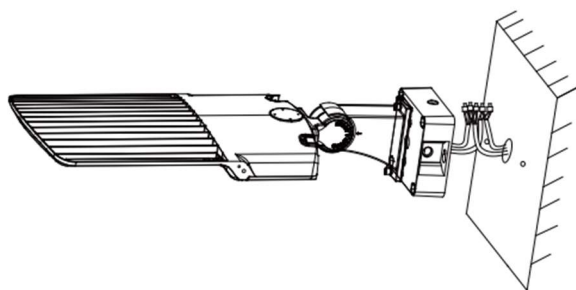

Figure 4
4. Wire fixture leads to supply wires and push the wires into Surface Mount Bracket. (Figure 4)